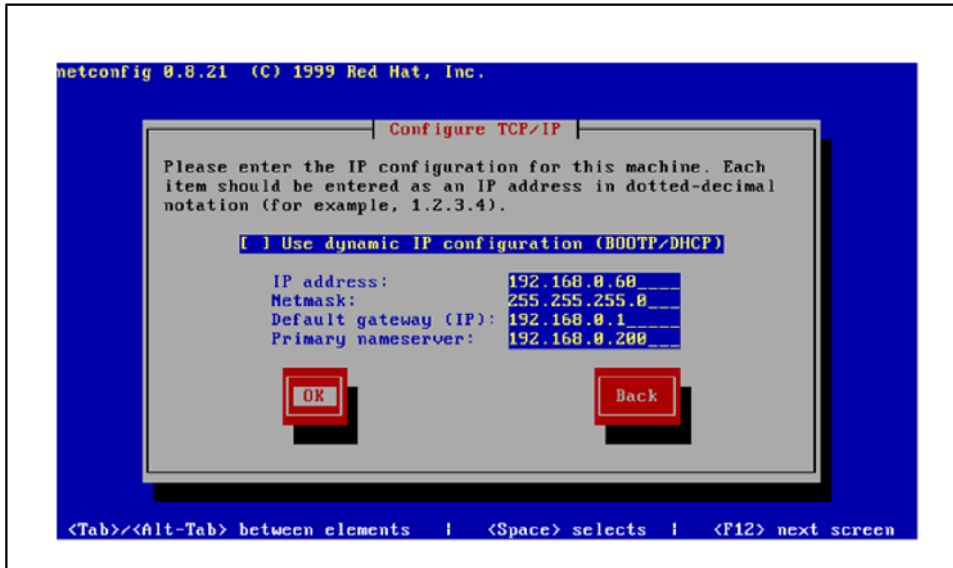

Figure 3-4 Configure TCP/IP Screen in Netconfig
5. When the command prompt appears at the bottom of the screen, type **netconfig** and press Enter. The screen will ask if you wish to set up networking. Press Enter to select "Yes." The Configure TCP/IP screen will be shown (**Figure 3-4**).